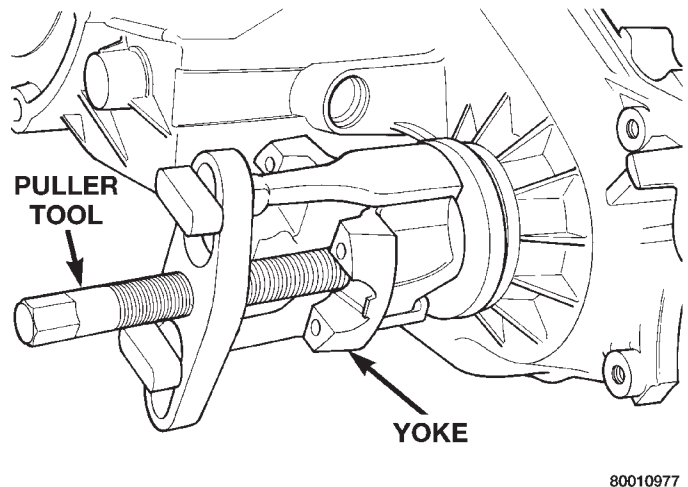

Fig. 16 Yoke Removal
- (3) Remove yoke. If yoke is difficult to remove by hand, remove it with bearing splitter, or with standard two jaw puller (Fig. 16). Be sure puller tool is